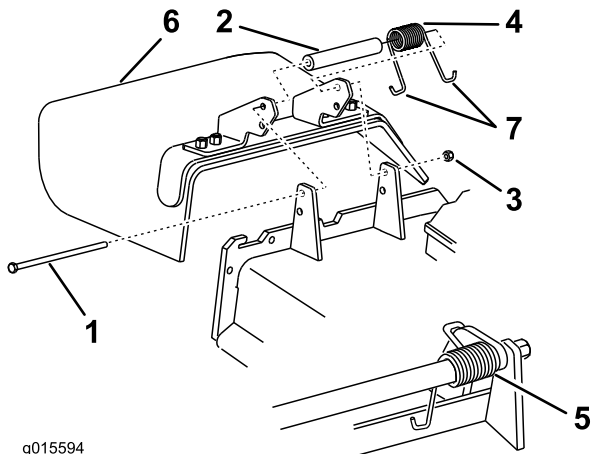

Figure 108
1. Remove the locknut, bolt, spring and spacer holding the deflector to the pivot brackets (Figure 108). Remove damaged or worn grass deflector.
Note: Make sure one J end of spring is installed behind deck edge before installing the bolt as shown in Figure 108.
3. Install bolt and nut. Place one J hook end of spring around grass deflector (Figure 108).